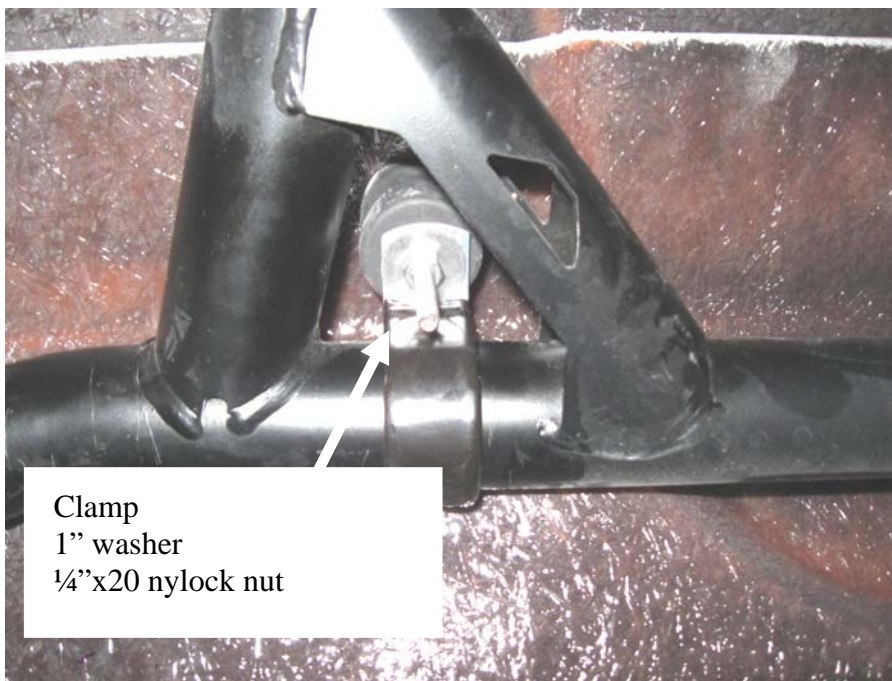

Figure 6
7. Place the roof panel on the top of the roll cage. Align the roof in its approximate location. Insert a 3” bolt through the two inside holes in the front of the roof panel. Install the 2” spacers as shown in figure 6 (insert end down). Tighten firmly. If installing with out a windshield insert the fasteners in the two outside holes and tighten securely.
8. Align the spacers to the clamps on the front of the roll bar and secure them as shown in figure 6.